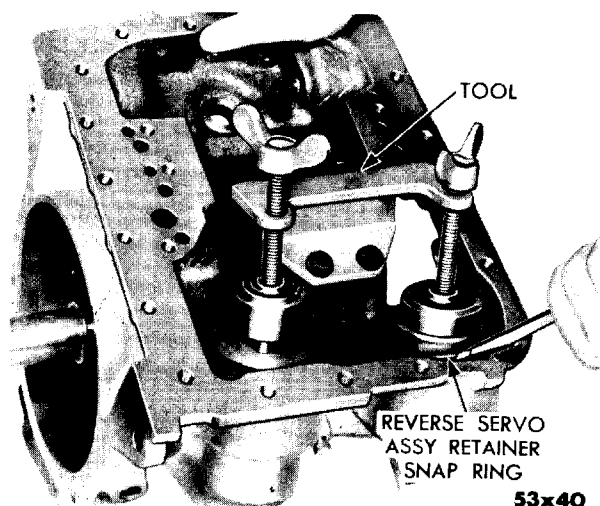

Fig. 33—Removal and Installation of Reverse Servo Assembly Retainer Snap Ring
(1) Install compressor, Tool C-3289 or C-3529, on transmission case (use oil pan screws) and compress reverse servo piston spring retainer.
(2) Using a screw driver, remove the reverse servo piston spring retainer snap ring, as shown in Figure 33. Loosen compressing portion of tool. Spring retainer may require guiding out of transmission case.
(3) Remove the spring retainer, spring and servo piston and plug assembly.
(4) Remove the servo piston seal (lip type neoprene) from piston.
(5) Remove reverse servo piston plug snap ring.
(6) Remove plug and cushion spring from piston.